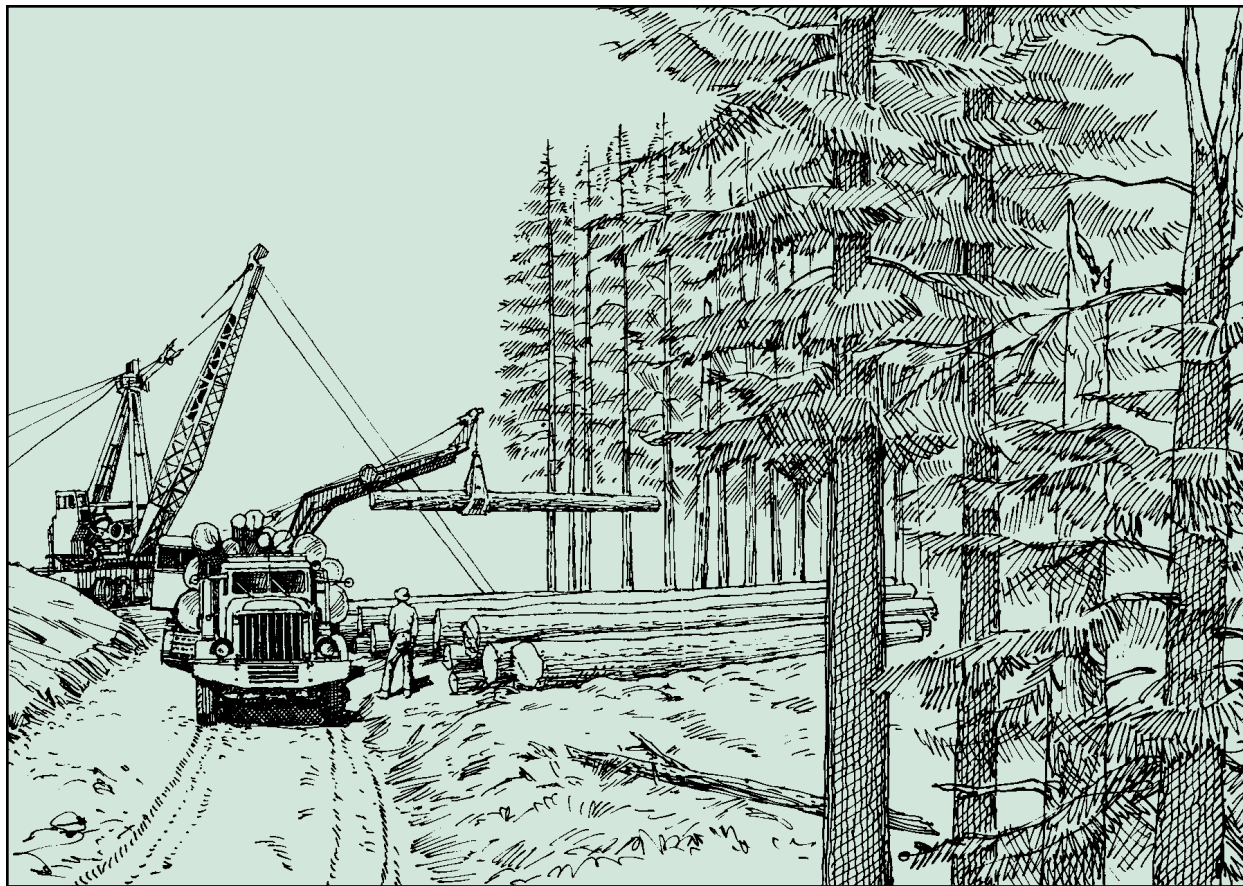

Fig. 21. — Reserve trees near roads.
- Leave Type 3 or 4 reserve trees along roads or near landings if their hazard area does not extend into a work area, yarder lines or roadway (Fig. 21).